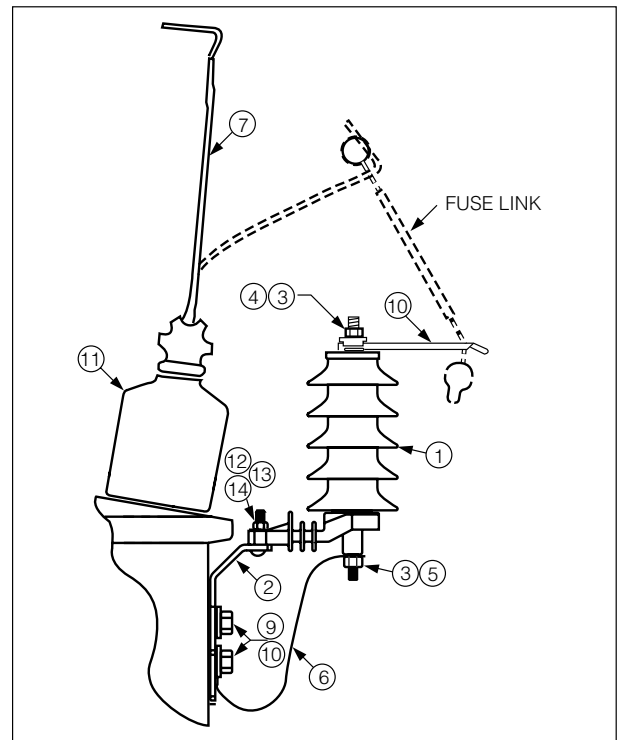

Figure 3. UltraSIL housed arrester/flipper fuse cutout assembly.
1. Mount the surge arrester (item 1) to the transformer mounting bracket (item 2) as shown in Figure 3. Torque the hanger bracket hex nut (item 12) to 20-25 ft-lbs.